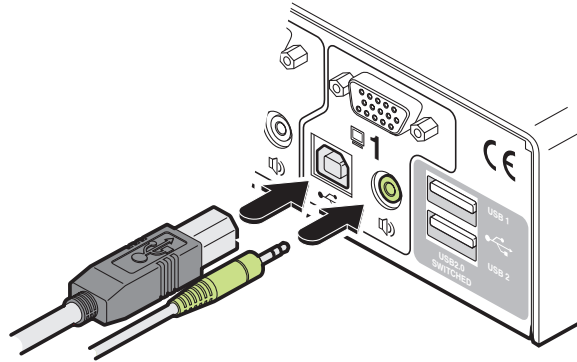

Figure 3-7. Connecting the USB and speaker leads from a computer to the ServSwitch Wizard VGA (USB) unit.
- 2 Use a USB cable (type-A to type-B) to link a USB port on the computer system to the USB port of the required channel on the rear of the unit. See Figure 3-7.
- 3 If required, use a stereo audio link cable (3.5-mm jacks at either end) to link the speaker port on the computer system to the audio port of the required channel on the rear of the unit. See Figure 3-7.